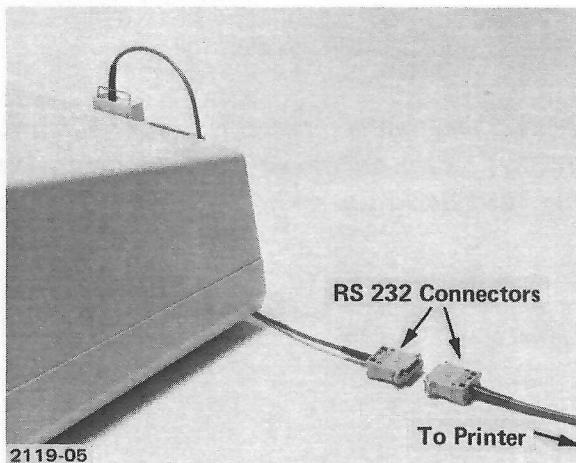

Figure 2-3. RS-232 Connectors.
3. Plug the printer interface RS-232 female connector into the male connector from the printer, terminal, or modem, etc. as shown in Figure 2-3.